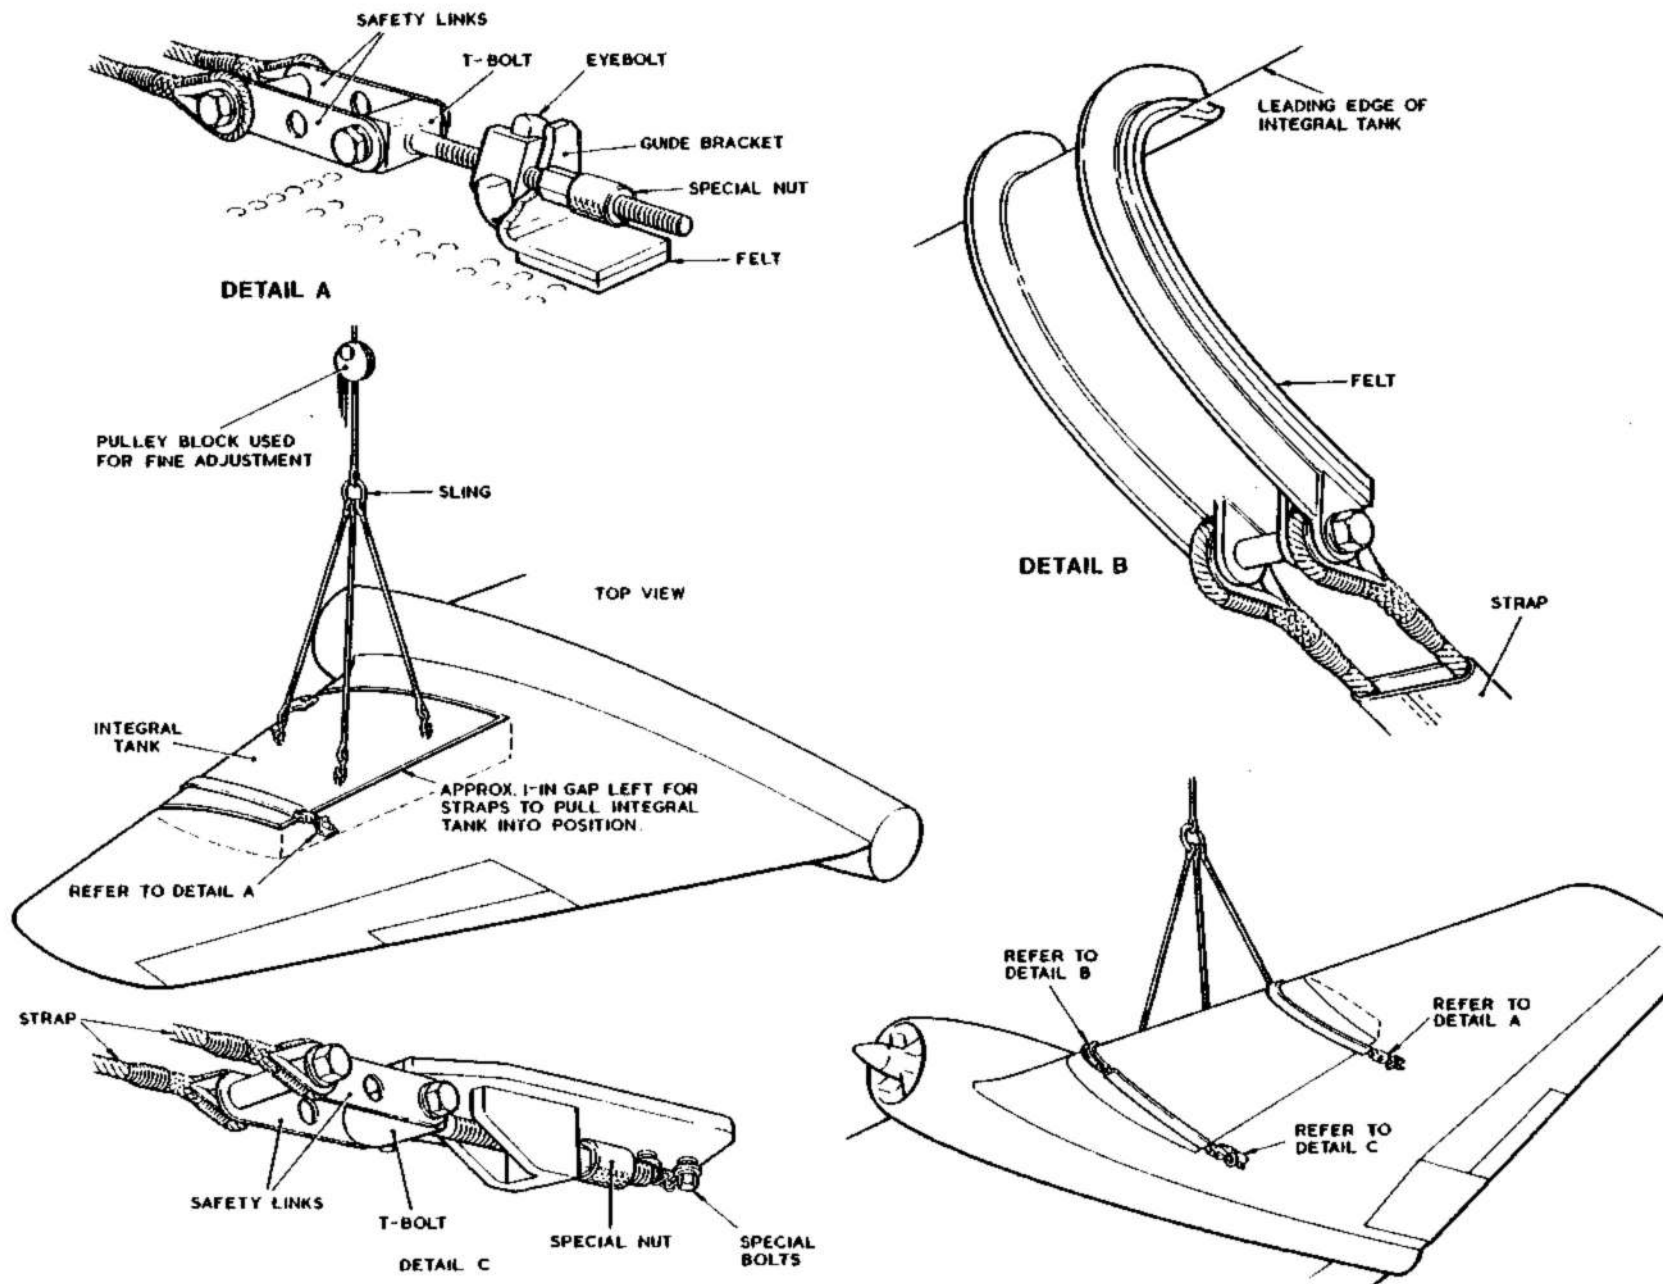

FIG.15. MAIN-PLANE INTEGRAL TANKS INSTALLATION
58. The procedure for installing a main plane integral tank is as follows (*fig. 15*):